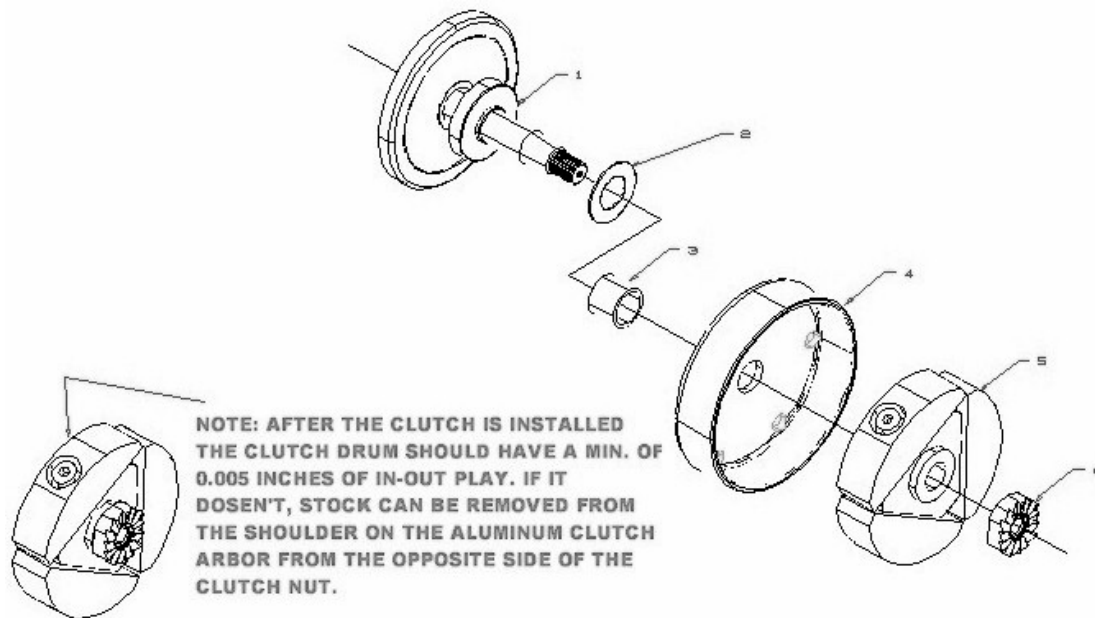

Figure 33, Clutch Assembly Drawing
7. Apply high strength (red) thread locking agent to the threads and install the nut and torque to 35 ft-lb (47Nm) with the special socket (see figure 33).